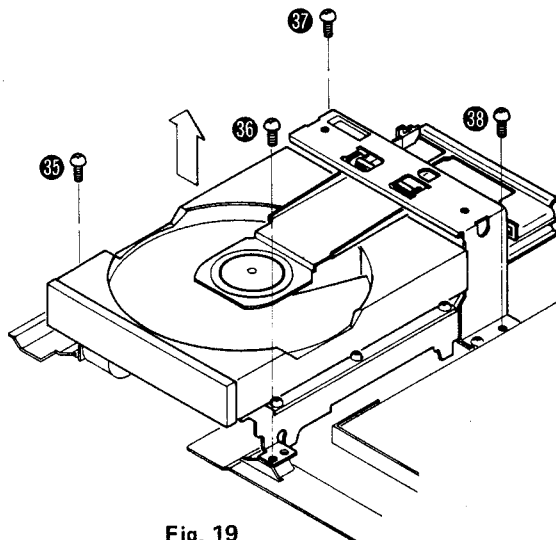

Fig. 19
2. Remove the 4 setscrews [Fig. 19 : ③⑤ ~ ③⑧] of traverse unit. Screws ③⑤ ~ ③⑧ are red.
1. Remove the 4 setscrews [Fig. 19 : ③⑤ ~ ③⑧] of traverse unit.